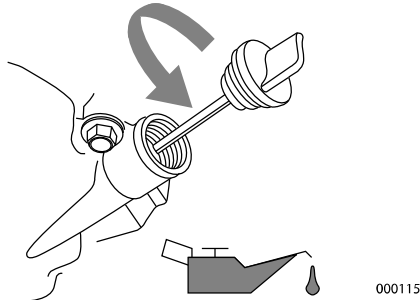

Figure 2-1. Remove Dipstick
3. See Figure 2-1. Remove oil fill cap and wipe dipstick clean.